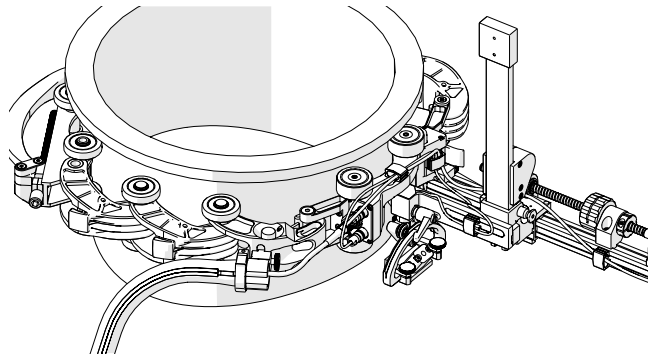

Fig. 94 - Press down to lock
9. Plug in the encoder cable into the main encoder output of the low profile link (Fig. 94). Route all cables and hoses through the cable management (see *Cable Management System* on page 33).